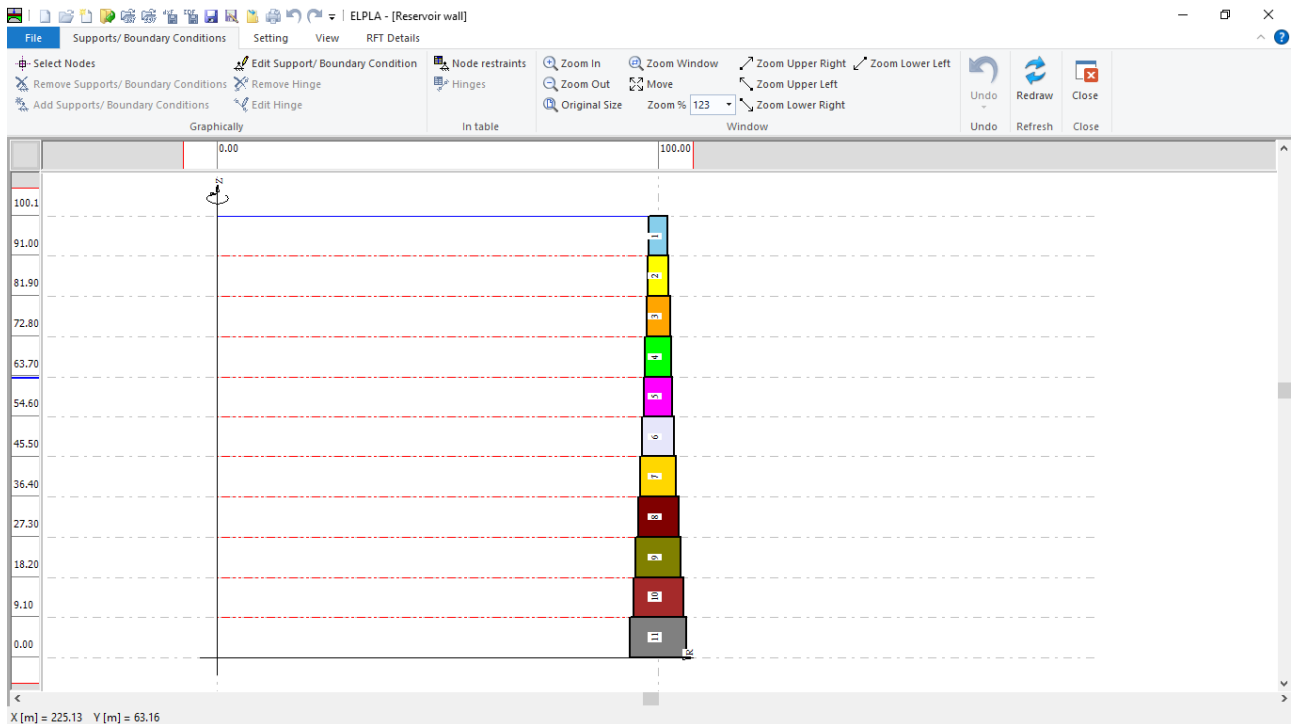
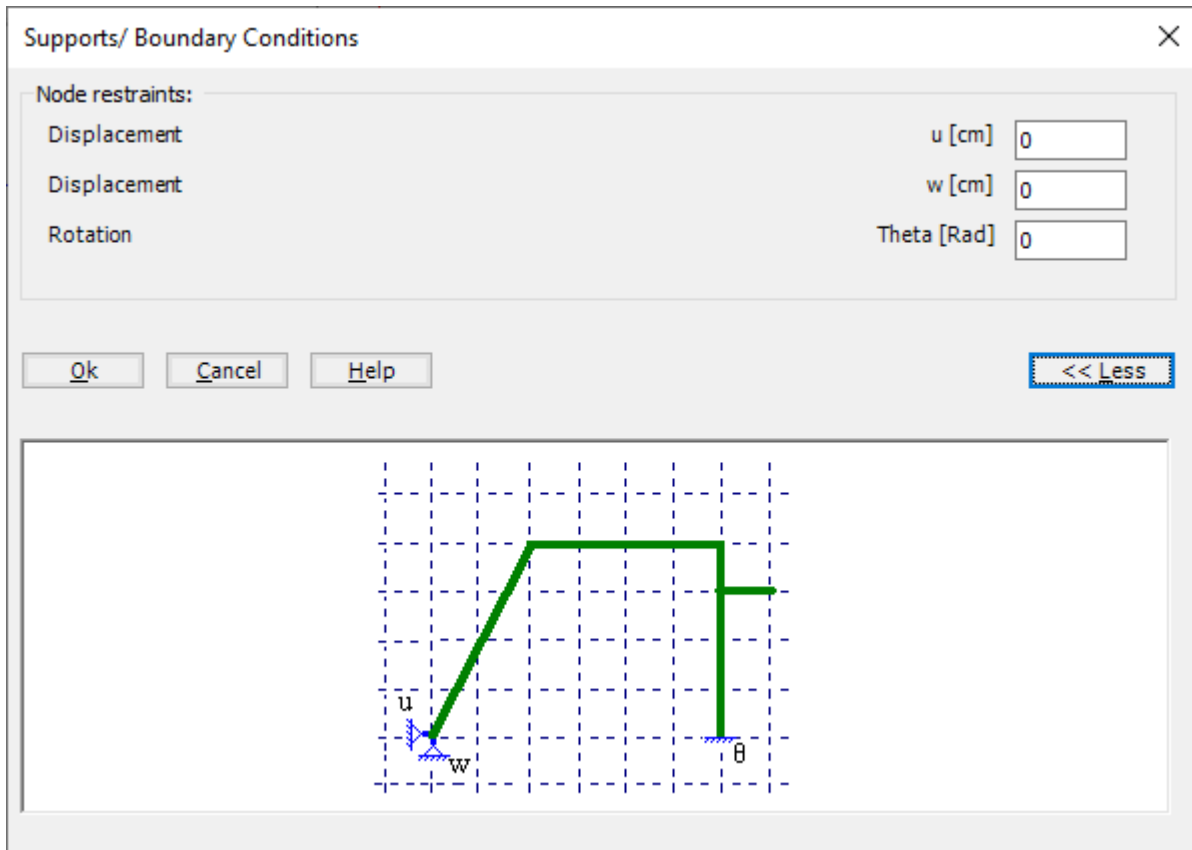

Figure 4.16 "Supports/ Boundary Conditions" Window
Figure 4.18 "Supports/ Boundary Conditions" dialog box
To define the fixed support, choose "Supports/ Boundary Conditions" command from "Data" Tab. The following window in Figure 4.16 appears.
- Choose "Select Nodes" command from "Graphically" menu in Figure 4.16. When "Select Nodes" command is chosen, the cursor will change from an arrow to a cross hair
- After selecting the node, choose "Add Supports/ Boundary Conditions" command from "Graphically" menu Figure 4.16. The "Supports/ Boundary Conditions" dialog box in Figure 4.18 appears.